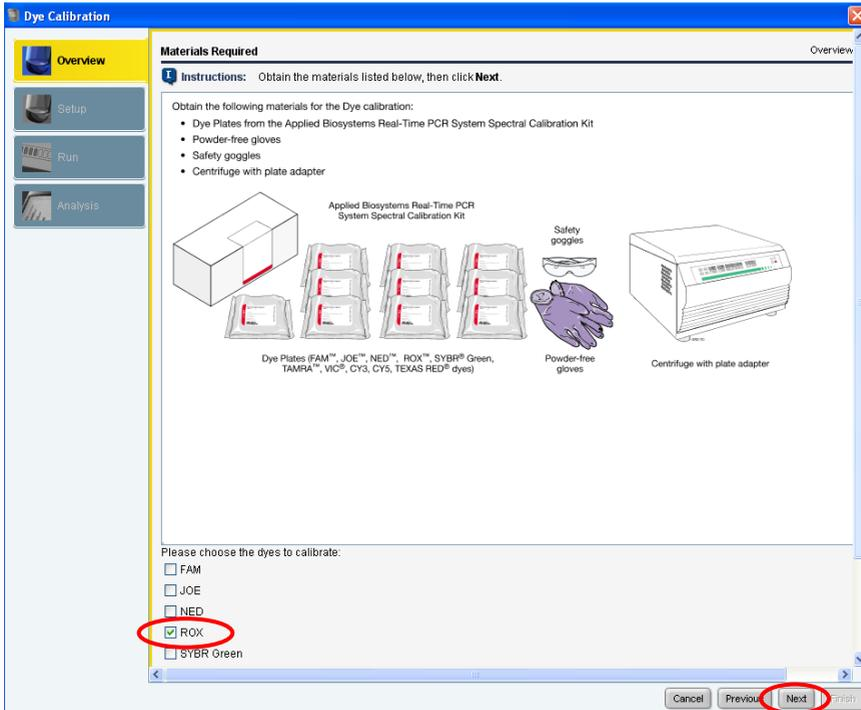

Figure 12. Selecting ROX dye to calibrate.
15. In the **Materials Required** window select only **ROX** and click **Next** (Figure 12).